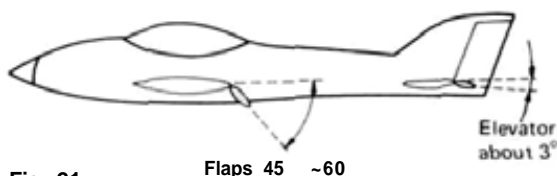

Fig. 61
- Use a separate servo on each aileron and connect as shown in Fig. 61 . NOTE: Always connect the servo on the Right Aileron to CH1 (Aileron). The Left servo to CH6 (Flap).